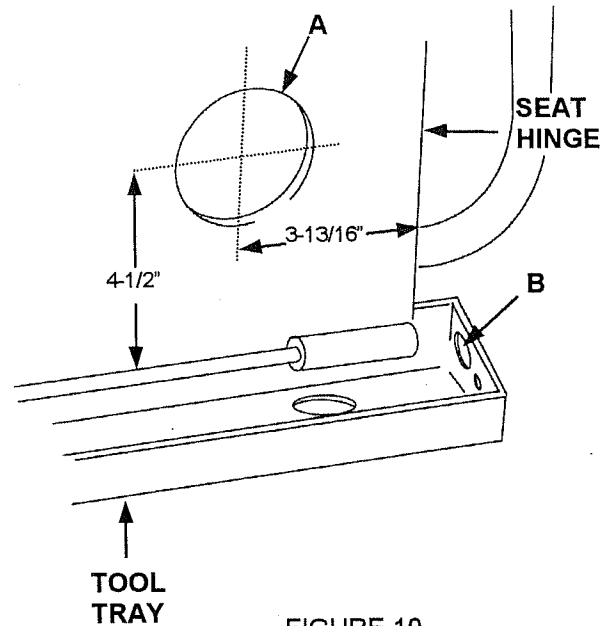
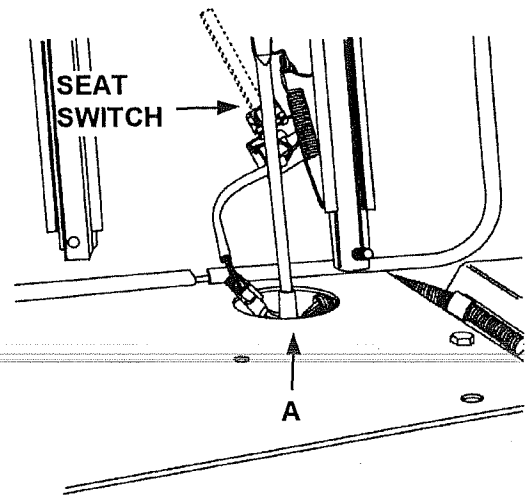

FIGURE 10
FIGURE 11
4. (See figure 10) Enlarge hole (B) in tool tray to 7/8". Remove burrs and paint bare metal.
5. (See figure 11) Install switch in seat pan. Insert through large square hole with clips facing the pan. Snap into place between the two holes.
6. Install seat on seat hinge. The switch wires must pass through hole (A) in hinge.
NOTE: Loaders built before S/N 17191387 (1997) will need 3" diameter hole (A) added. Remove burrs and paint bare metal. (See figure 10)